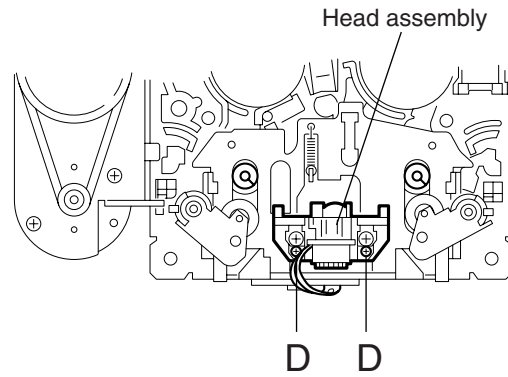

Fig.9
■Removing the head assembly / head board (See Fig.9 and 10)
- Prior to performing the following procedure, remove the side bracket (L), (R), cassette hanger assembly / cassette holder.